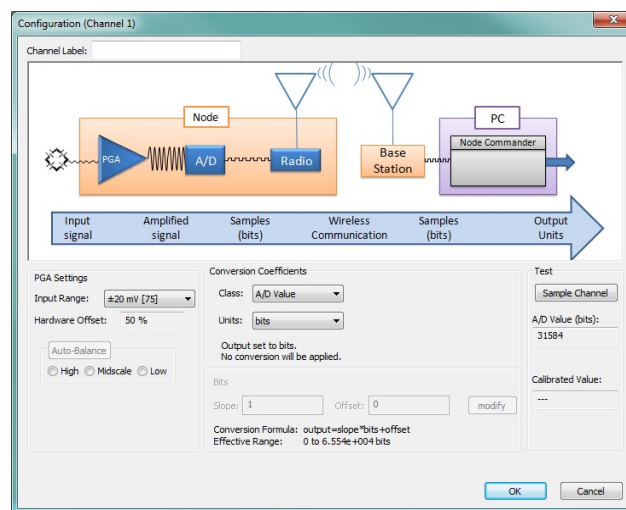

Figure 62 - Channel Settings
2. In this example, use the following settings (Figure 62 - Channel Settings):